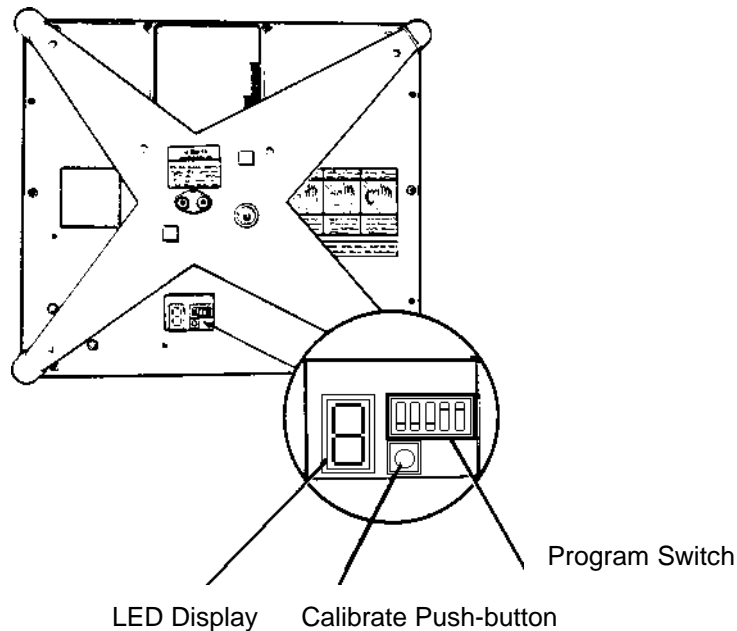

FIGURE 3
The 8213 PCB contains five program options switches. These should be set prior to applying A-C power. See Figure 3.
The LED display, located next to the programming switches, will show a "0" indicating all power up diagnostic test have been passed. See Figure 3.
4. PLACE the Empty Platter upside down on the spider. DEPRESS the Calibrate Push Button (Figure 3) UNTIL the "E" begins flashing.